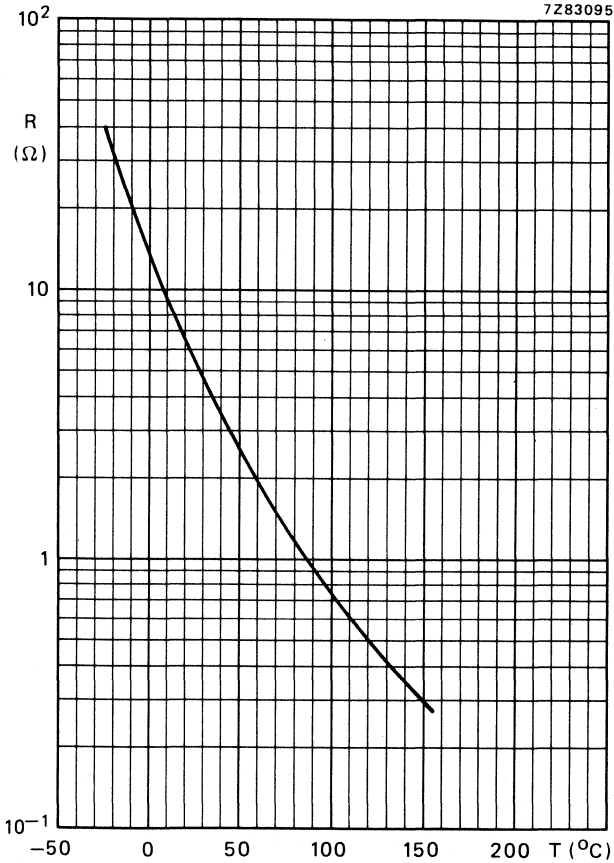

Fig. 2 Typical resistance/temperature characteristic.
3) Measured in the circuit shown in Fig.2.